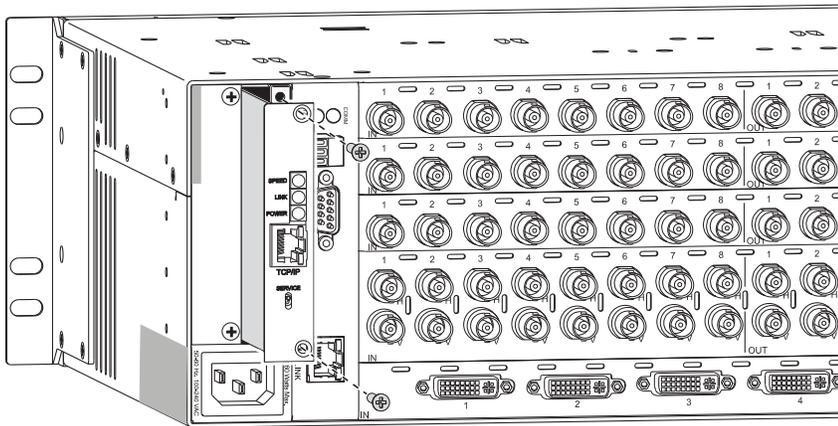

FIG. 71 Insert APWeb board into expansion slot and replace screws
4. Insert the APWeb board into the empty expansion slot, aligning the board between the upper and lower guides inside the slot, pushing until the board is flush with the rear of the enclosure (FIG. 71).